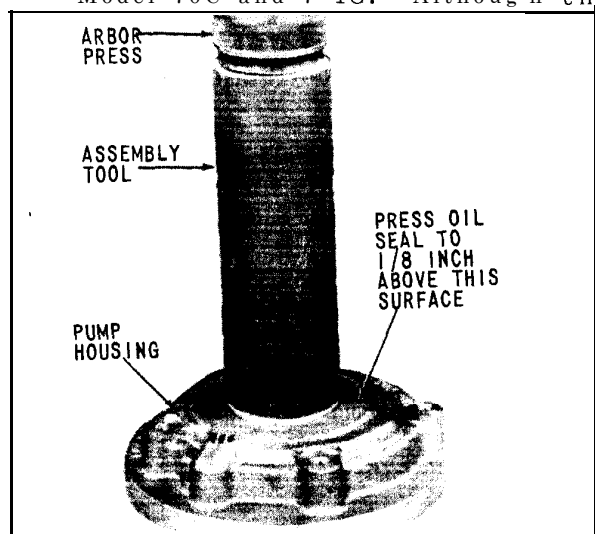

Fig. 105 Pressing Oil Seal
2. The pump assembly for the Model 70B' and 71B transmissions (71-A60) contains a different seal than the pump assembly with backing plate for the Model 70C and 71C (71-1A60). They are identical in all other respects. Therefore, when assembling the front pump assembly 71-A60 follow the information in (paragraphs S-15) pages 48 to 51, with the exception that the seal should be pressed into the pump housing until front face of seal is  $\frac{1}{8}$  inch above front face of Pump housing, (Fig. 105).